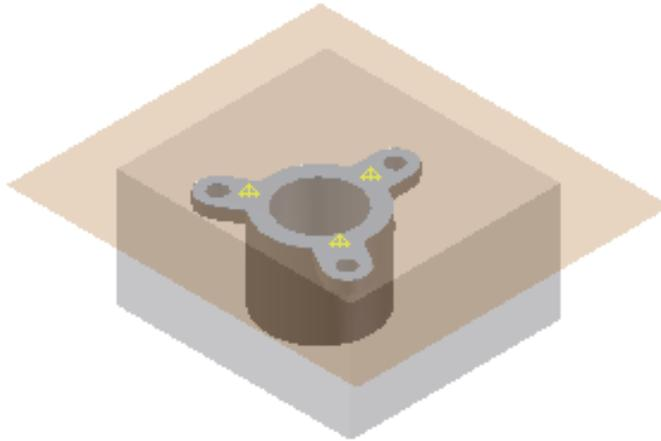

Figure 19-56 Preview of the runoff surface
2. Select the outer loop of the top face of the model; a preview of the runoff surface is displayed, refer to Figure 19-56.